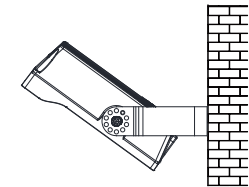

figure 3.4
Step 3: Loosen screw; Adjust fixture angles as per actual demands and tighten screws later (figure 3.4), Tips: Angles of the fixture is adjustable.